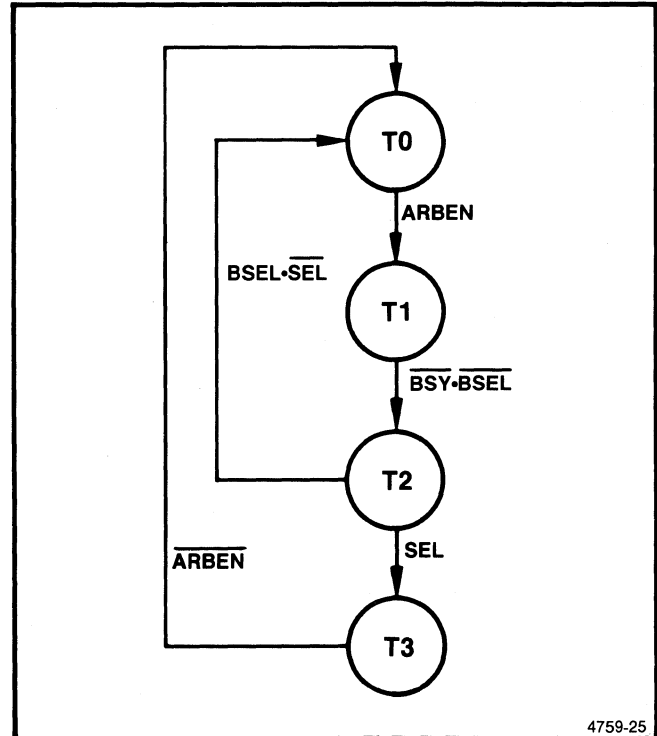

Fig. 9-4. SCSI arbitration diagram.
Arbitration on the SCSI bus is done through a combination of firmware and a state machine contained in part of the PAL16R4 (U2130). The firmware writes the MSC Board's ID to the data buffers and then sets the state machine input, ARBEN(H). When ARBEN(H) is set, the state machine (see Fig. 9-4) waits for both the SEL(H) and BSY(H) lines on the SCSI bus to be deasserted. When this condition is detected, the state machine waits one state (approximately 125 ns) before asserting BSY(H) and enabling the MSC Board's ID from the data buffers onto the SCSI bus. The assertion of BSY(H) (read back through the signal ONBUS(H)) signals
Inputs. The state machine timing diagram is shown in Figure 9-4. The input S6 comes directly from the 80186. This input is valid in CPU states S2, S3, SW and S4 of a CPU read or write cycle and indicates that a DMA cycle is in process when asserted.